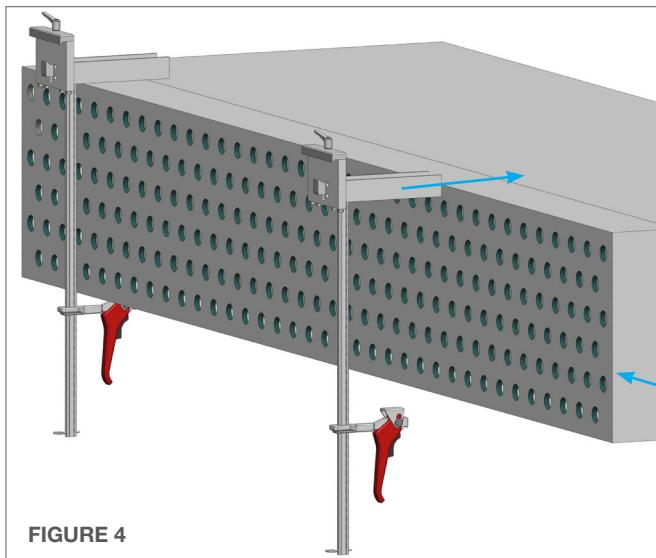

FIGURE 4
4. Mount the **Fin Fan Clamp Assemblies** to the tube bundle as shown. The Clamps should be as square to the bundle as possible. Ratchet the red Handle Assembly until tight. (**Figure 4**)
4. Attach Scaffold Mount to scaffold railing before attaching AUTOBOX®. Ensure the adjustable extension is positioned so that the mount is tight to the rails. Set the AUTOBOX® (ABX-2L) on the Scaffold Mount, so that the Center Hole Mount is over the pivot end of the Scaffold Mount. Pull the Quick Pin on the Retrofit Kit out and release it when it is in position with a desired notch on the Scaffold Mount. **(Figure 4)**